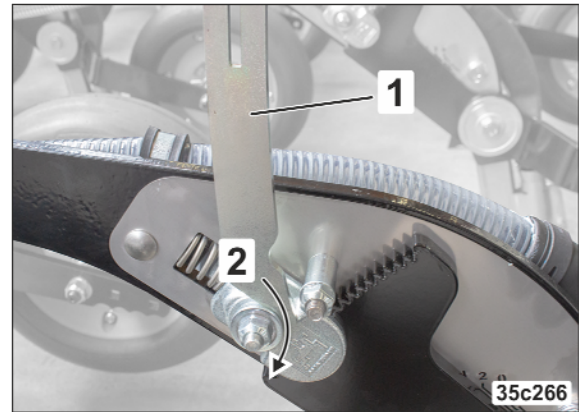

Fig. 174
2. Insert the tool (Fig. 174/1) into the setting device (Fig. 174/2).